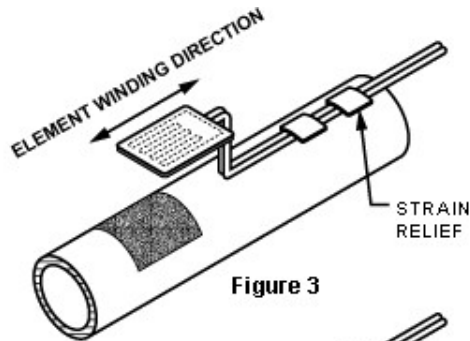

Figure 3
9) Installation (Figures 3 & 4)